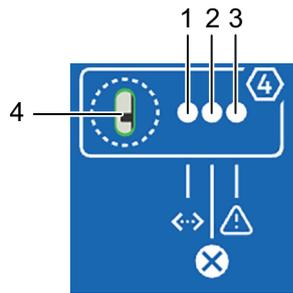

Fig. 10: Status LEDs and calibration switch, exemplary for Stream 4
- Measurement running (green), cf. fig. 10, item 1
- Warning (yellow), cf. fig. 10, item 2
- Alarm/fault/error (red), cf. fig. 10, item 3
The calibration switch (cf. fig. 10, item 4) is used to lock the calibration settings made for the respective stream. It can be moved up and down vertically using an additional tool and is secured with a calibration seal for custody transfer applications.